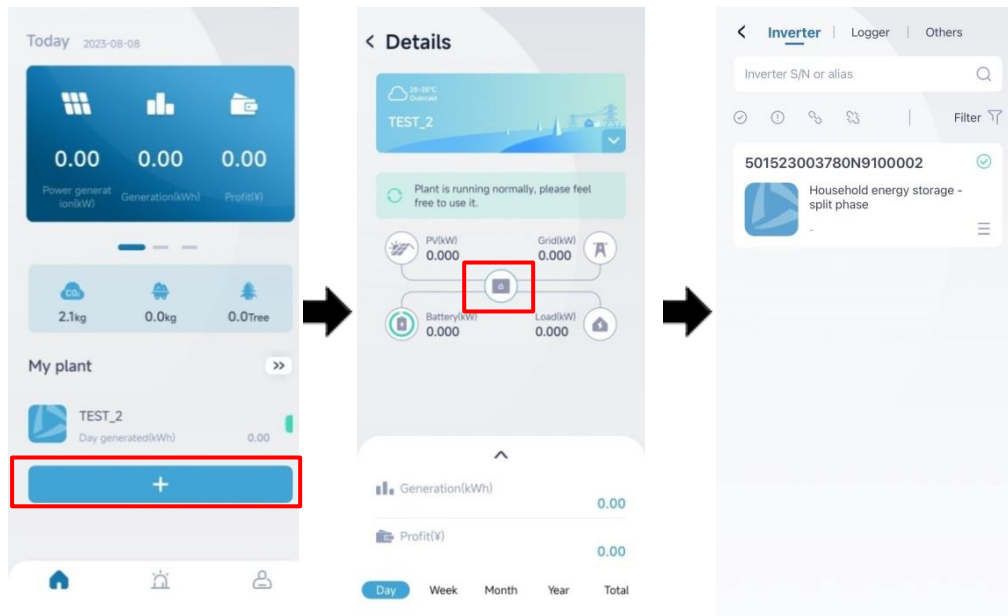

Figure4-11 Device list
Step 1 In main page, tap **My plant** - device list to enter the device list page, as shown in Figure4-11.